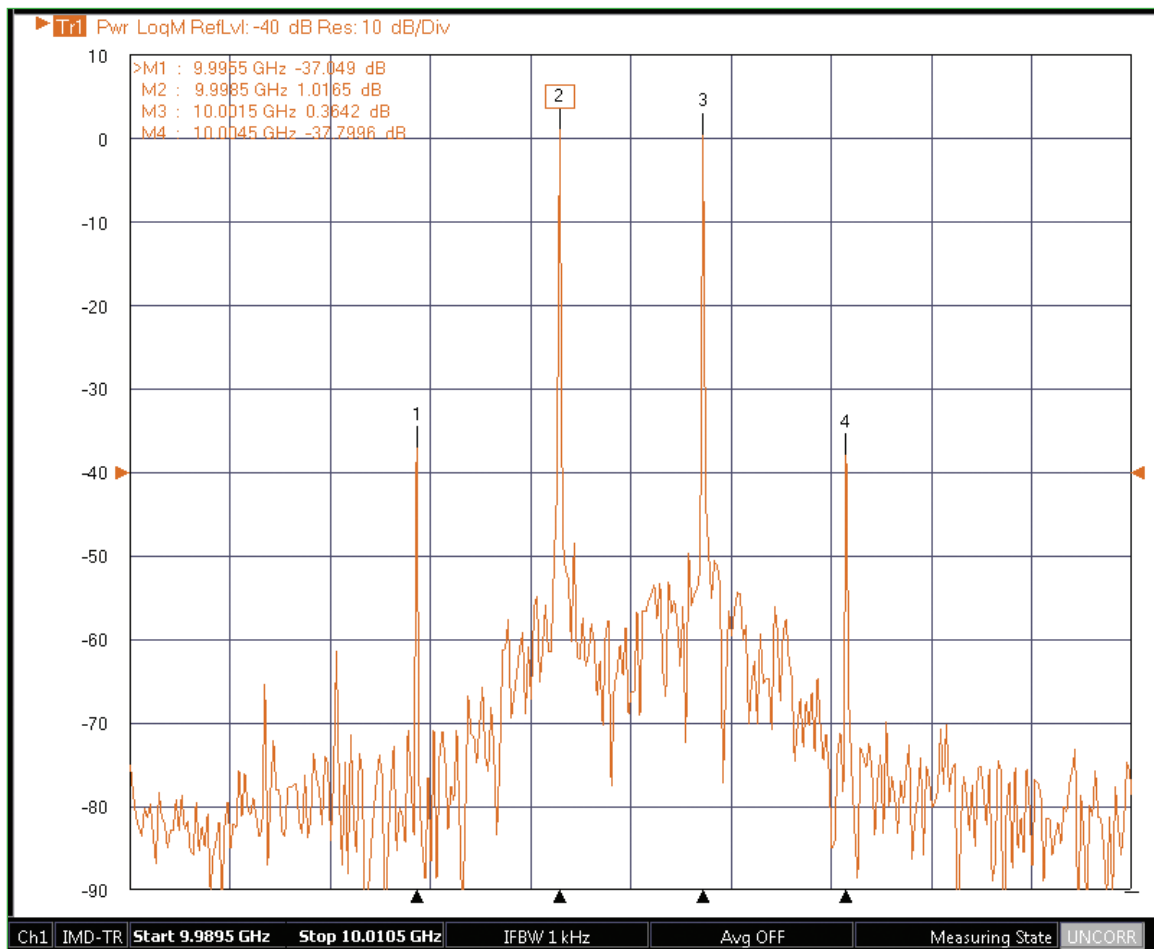

Figure 10: Marker display
2.2. Set the Threshold to around  $-45$  dB. If needed, select Search Multi Peak to activate the markers. There should now be markers at the 3rd order intermodulation products and at the two fundamental tones as shown in Figure 10.